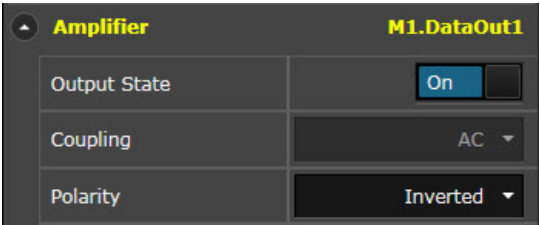

Figure 24 Enable pattern generator output
- 11 Enable the output of the pattern generator by clicking on the **Output State** button as shown in Figure 24 on page -52.